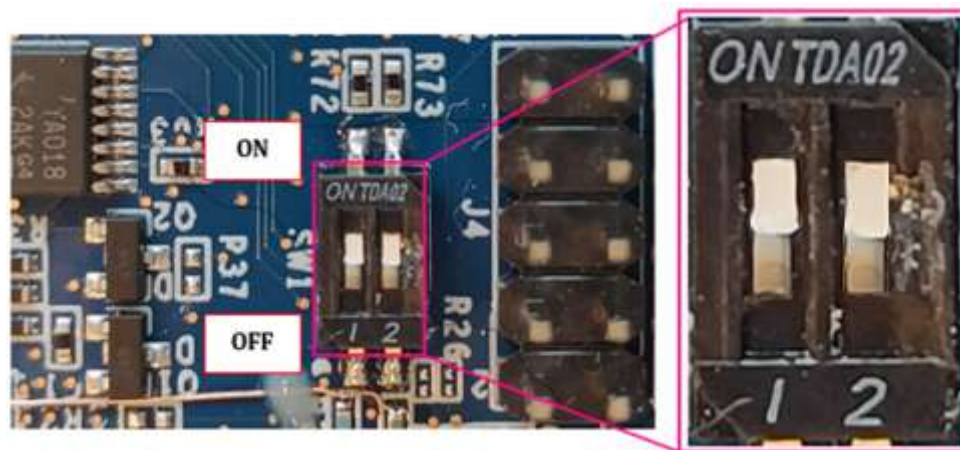

Figure 13. Hailo-15L SBC DIP SW 1
1. Confirm that both SW1 DIP switches on the Hailo-15L SBC are set to ON as in Figure 13.